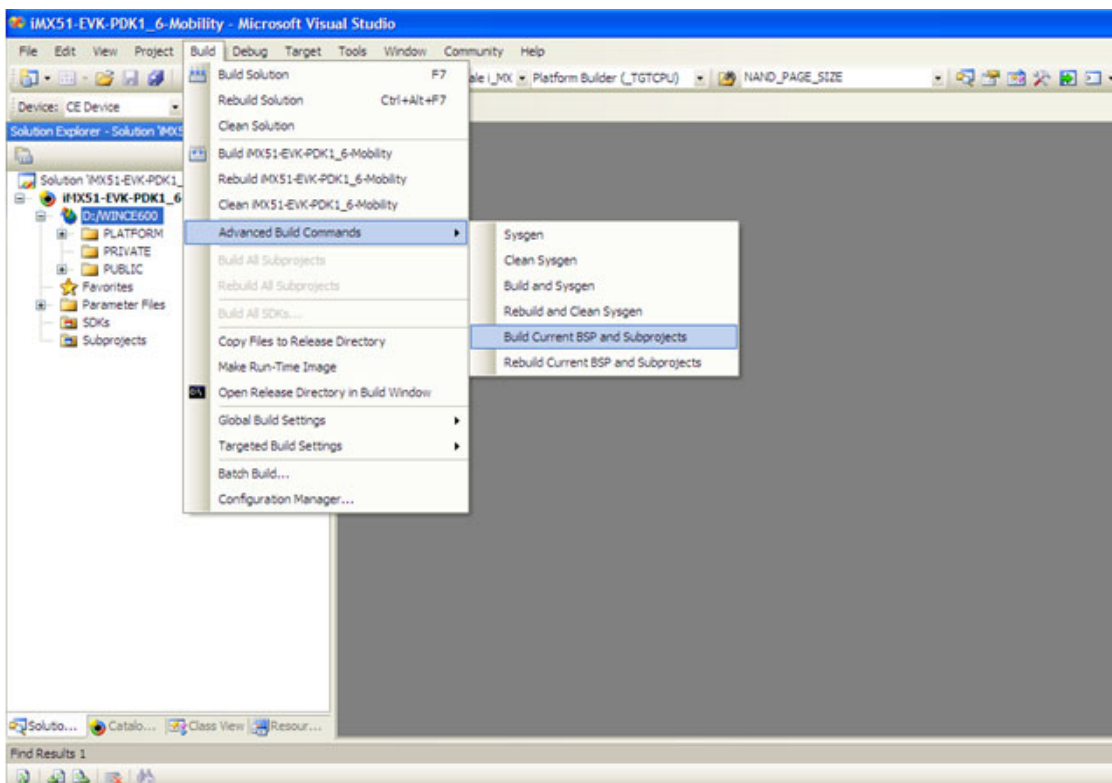

Figure 4. Building Current BSP and Subprojects
- In Platform Builder, go to Build > Advanced Build Commands > Build Current BSP and Subprojects as shown in Figure 4. This process builds the image and the bootloader as well, since both share the same driver.